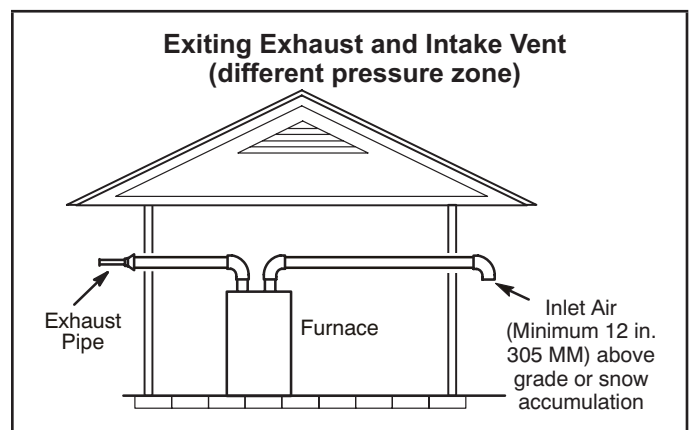

FIGURE 35
- 1 - Vent terminations are not required to be in the same pressure zone. You may exit the intake on one side of the structure and the exhaust on another side (FIGURE 35). You may exit the exhaust out the roof and the intake out the side of the structure (FIGURE 36).